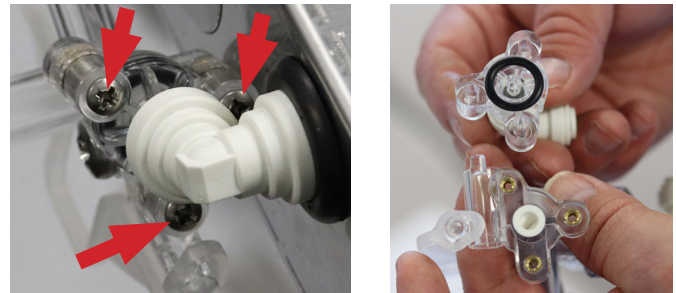

FIGURE 6 - Remove screws and pull apart
- 4. Locate side of assembly of Duckbill Valve requiring replacement. Remove 3 screws. (See figure 6)